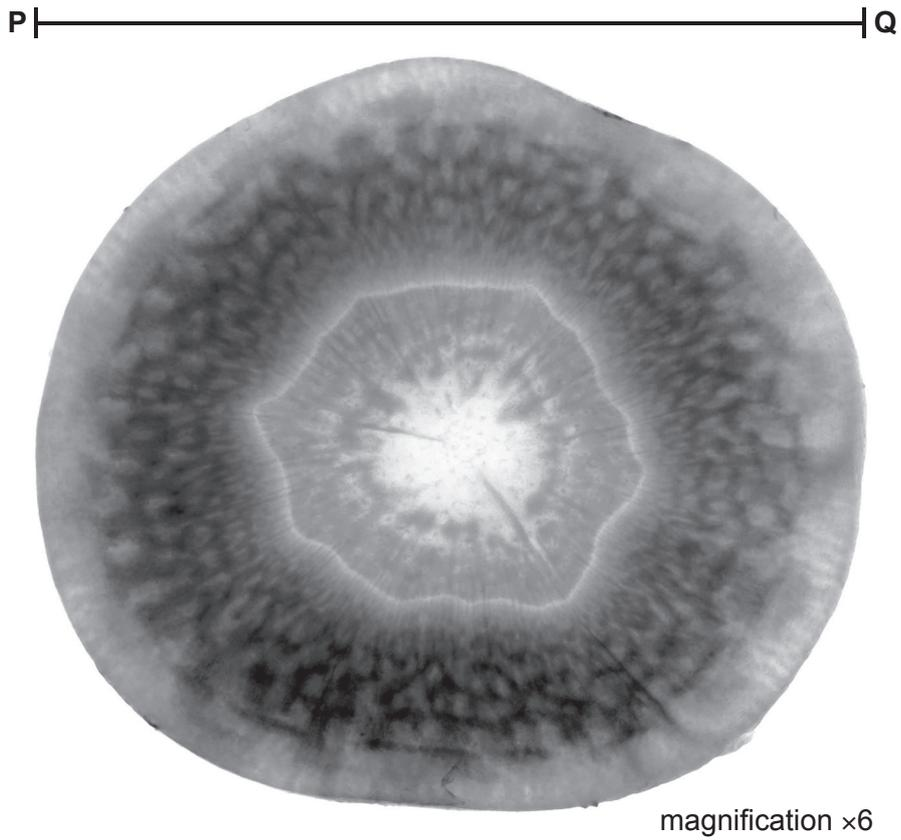

Fig. 2.1
2 Fig. 2.1 is a photograph of a cross-section of a root from a carrot plant, *Daucus carota*.
- (a) (i) Draw a large diagram of the carrot root cross-section that shows the layers visible in Fig. 2.1.
(ii) Line **PQ** on Fig. 2.1 represents the diameter of the carrot root cross-section.
Measure the length of line **PQ** on Fig. 2.1.
$$\text{magnification} = \frac{\text{length of line } \mathbf{PQ} \text{ in Fig. 2.1}}{\text{actual diameter of the carrot root cross-section}}$$